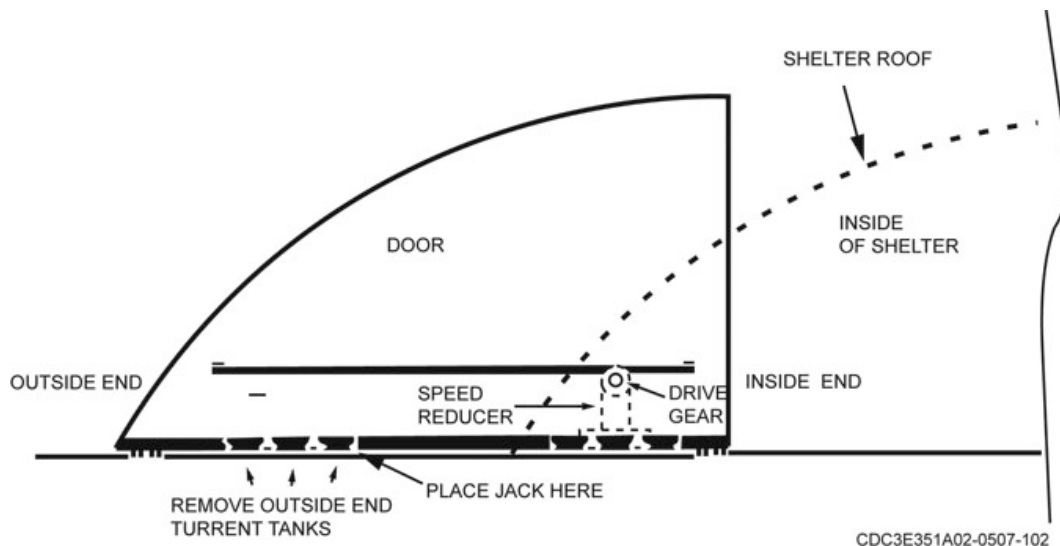

Figure 3-37. Turret tank removal.
1. Open the door so the tank closest to the middle of the door clears the outside of the shelter roof (fig. 3-37).